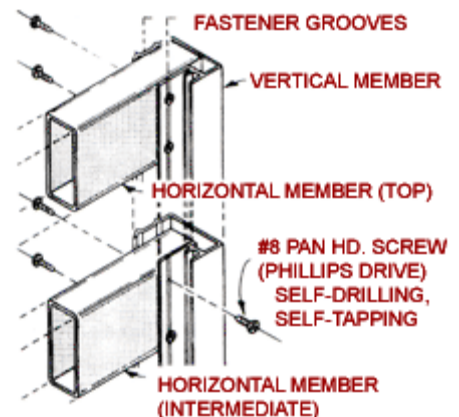

FIGURE 4
4.) After squaring secure the grid with a second fastener at each of the four corners locating them as shown in **Fig. 4**